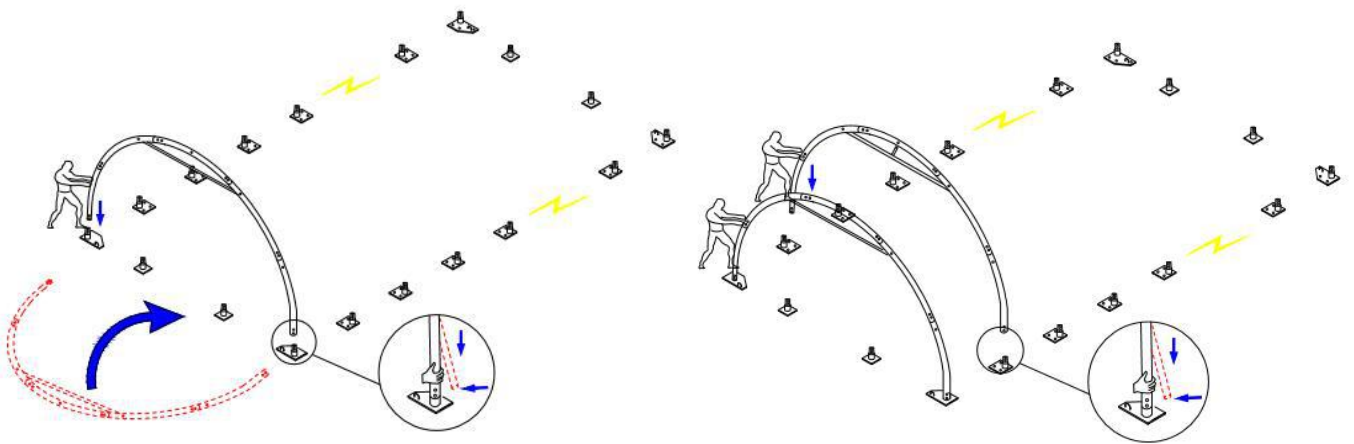

Figure 6
1. When finish installing the first two arches into the base plates, use purlins (No.4) to connect them by Bolt Carriage M10x100 (No.17). Then install the third arch into the base plate and connect the Purlins. In this turn, fix all other arches and other purlins. Then come to install the front panel and back panel. Find the relative components and assemble them. The horizontal Strengthening Support Tube (No.4) under the roof bent tube is used for making the frame be much stronger(4A).Please check the figure 6 and 7 for reference.